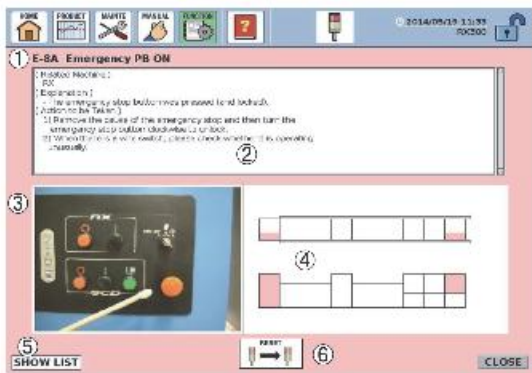

Fig. 1 Trouble message screen
- (1) Trouble message screen
- When a trouble occurs, the function panel is switched to the screen shown in Fig. 1.
If multiple troubles occur, the [SHOW LIST] switch appears at the left bottom on the “Trouble Message” screen (Fig. 1). Touch this switch to display the “Trouble list display” screen.